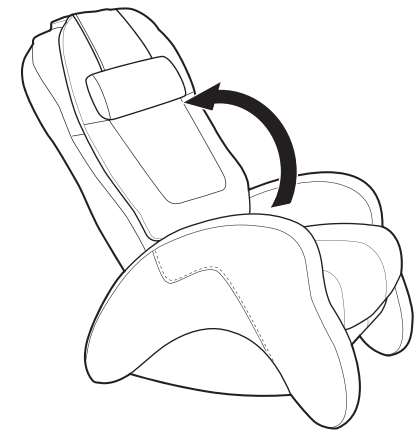

Fig.13
12. Gently pull up on the backrest to return it to an upright position (Fig.13).